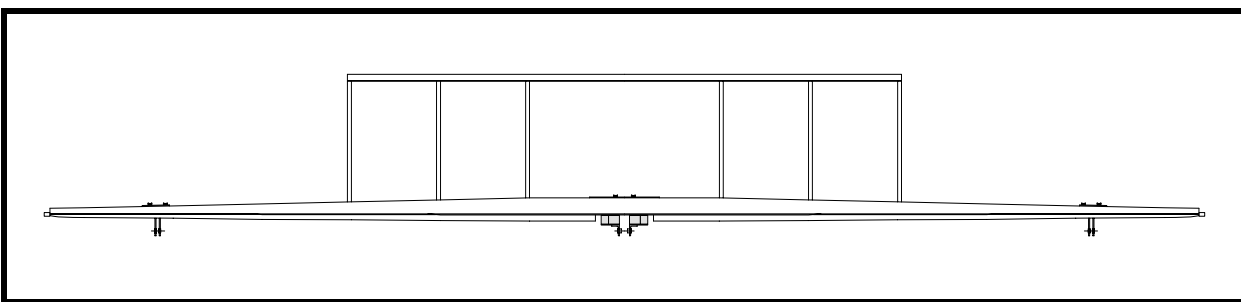

Figure 6
- ☐ Trial fit the forward stabilizer spar to the ribs. This will require that the string be removed temporarily. Sand the forward ends of the ribs for the forward stabilizer spar. See Figure 6.